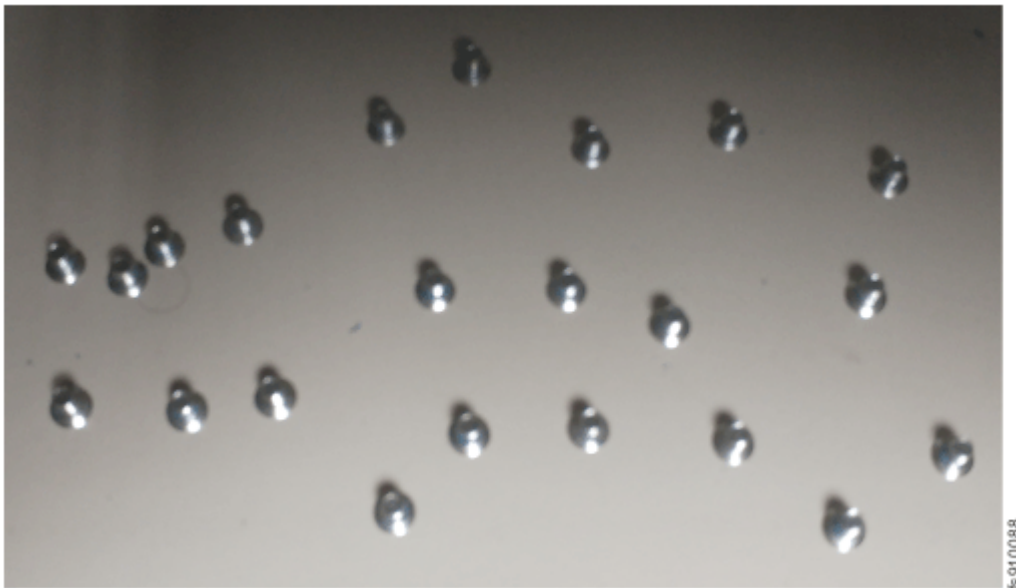

Figure 117. Midplane assembly screws
20. Unpack the replacement midplane assembly. Locate the pack of replacement screws that comes in the package. The package includes 24 screws, but only 22 screws (shown in Figure 117 on page 155) are used to secure the enclosure chassis.